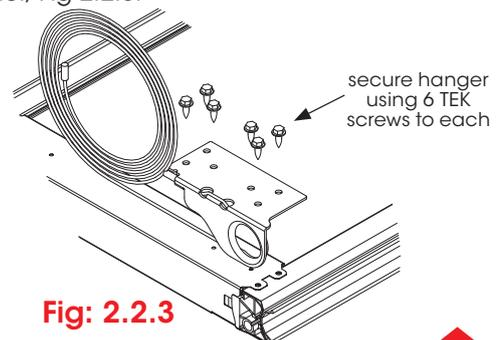

Fig: 2.2.3
- Attach the left and right bottom hangers to the lower end of the door using 6 x TEK screws in each and insert 2 x 46mm wheel axles (J) into bottom of panel, Fig 2.2.3.